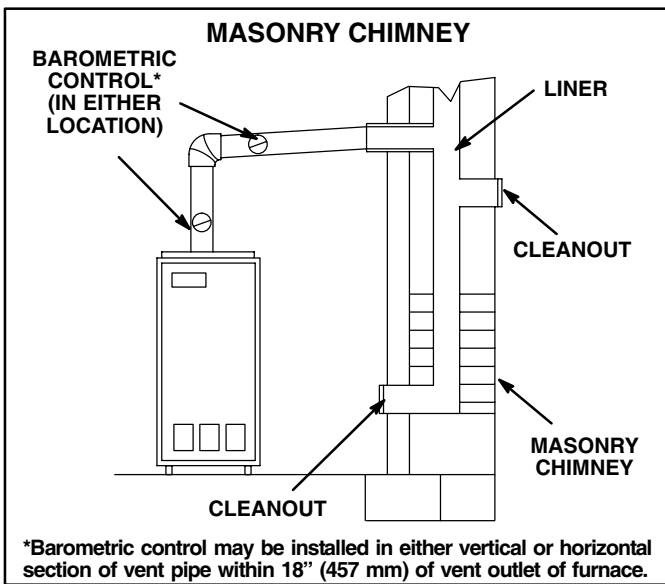

FIGURE 18
- 9- The vent pipe should slope upward toward the chimney on horizontal run at least 1/4 inch (6 mm) to the foot (0.3 m) and should be supported by something other than the furnace, such as isolation hangers. See figure 18.